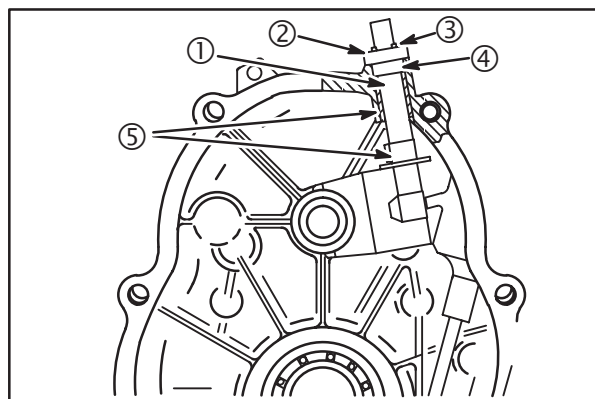

Fig. 8
1. Remove cotter pin (3) and collar (2). Discard cotter pin, **Fig. 8**.
2. Slide governor shaft (1) out of bushings (5).
3. Remove and discard seal (4).